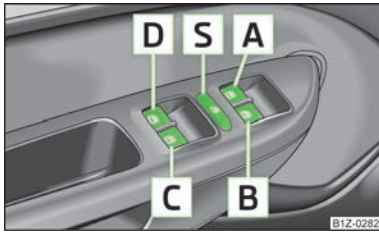

Fig. 18
- It is recommended to deactivate the electrically operated power windows in the rear doors (safety pushbutton)  » Fig. 18 when children are being transported on the rear seats.
The buttons for the individual windows are located in the armrest of the driver's door » Fig. 18, front passenger seat and in the rear doors » page 40.
The buttons for power windows in the rear doors can be deactivated by pressing the safety pushbutton **S** » Fig. 18. The buttons for the power windows in rear doors are activated again by pressing the safety pushbutton **S** again.